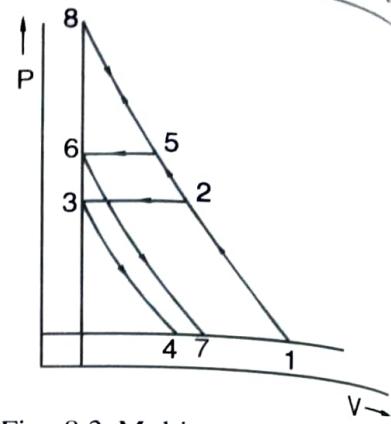

Fig. 8.3 Multistage compression
- (1) As shown in Fig. 8.3 if delivery pressure is too high, then only clearance volume will be compressed and expanded and there will be no delivery of air.
- (2) Also temperature is very high. If high temperature is not required it is loss of energy.
- (3) Heavier parts are required due to high pressure. This will lead to balancing problems.
- (4) Due to high temperature lubricating oil loses its lubricating properties and friction increases.
- (5) The size of cylinder will be too large.